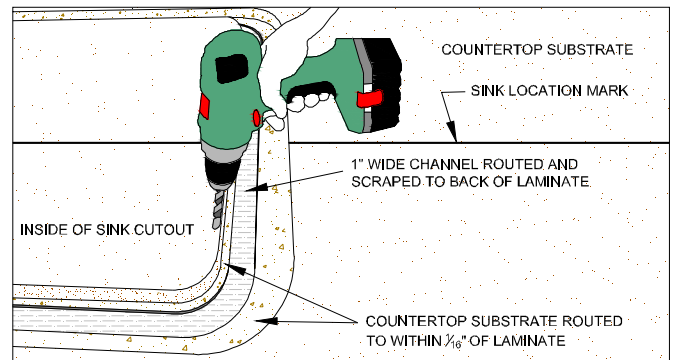

Figure 11A
- Drill a $\frac{3}{8}$ " or larger pilot hole through the substrate at the inside of the sink cutout to insert a laminate trim bit to cutout center piece. (FIG. 11A)